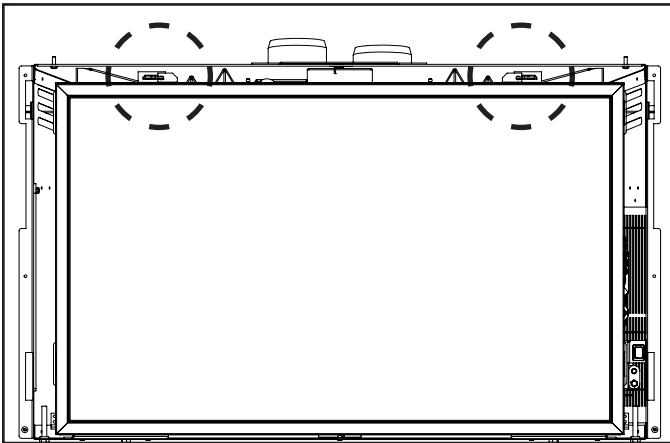
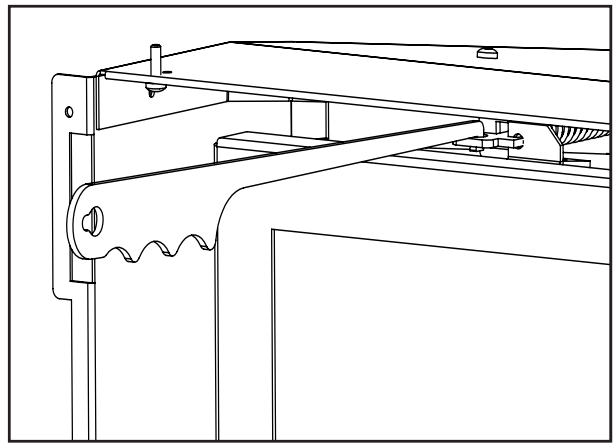
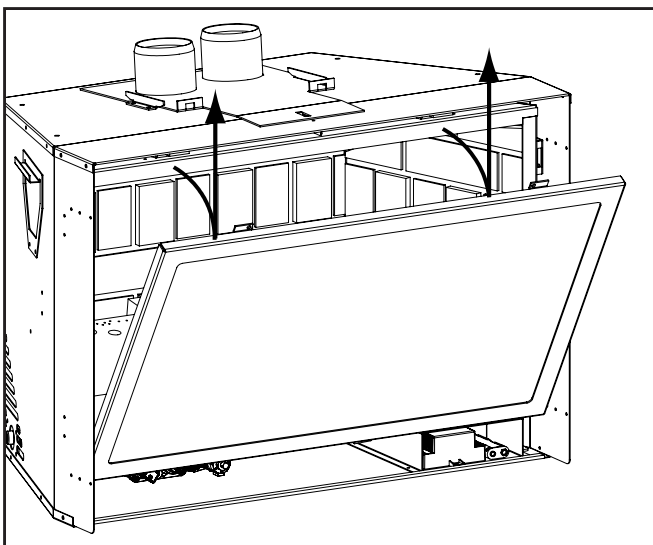

Figure 19: Door Spring Latch Locations
Figure 20: Door Latch Release.
Figure 21: Door Removal
The glass door of the fireplace is retained at the top by two spring latches as shown in Figure 19. Release the latches by placing the hooked end of the door tool in the hole on the door latch mechanism (Figures 20) and pulling the latch forward then out to the side. When the two (2) latches have been released, tilt the top of the door forward and lift up to remove the door (Figure 21). To re-install the glass door simply reverse the procedure.